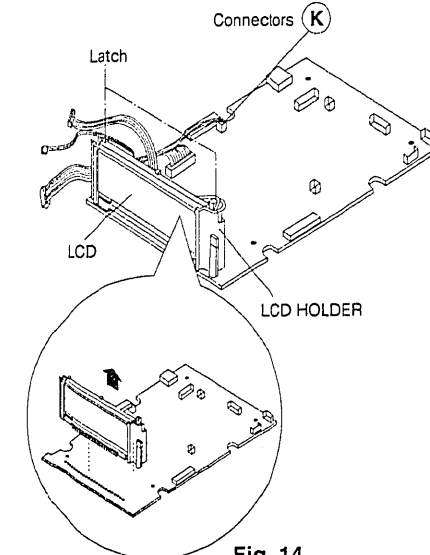

Fig. 14
- (1) Remove 4 screws ⑱ from the Main Chassis.
13. **Removal of Lamp P.W.B and LCD Holder (Fig. 14)**